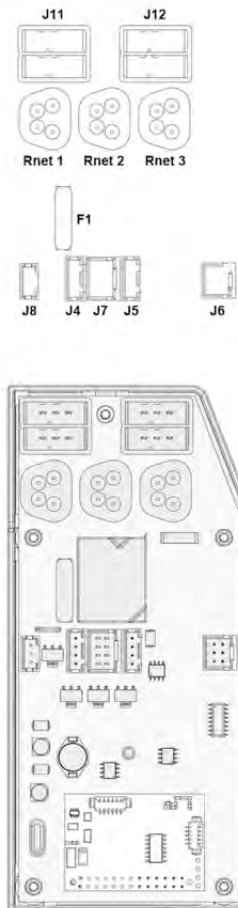

Figure 165. ICS Master Module.
6. Connect the connectors J4, J5 och J7 to the ICS Master Module. See fig.165.